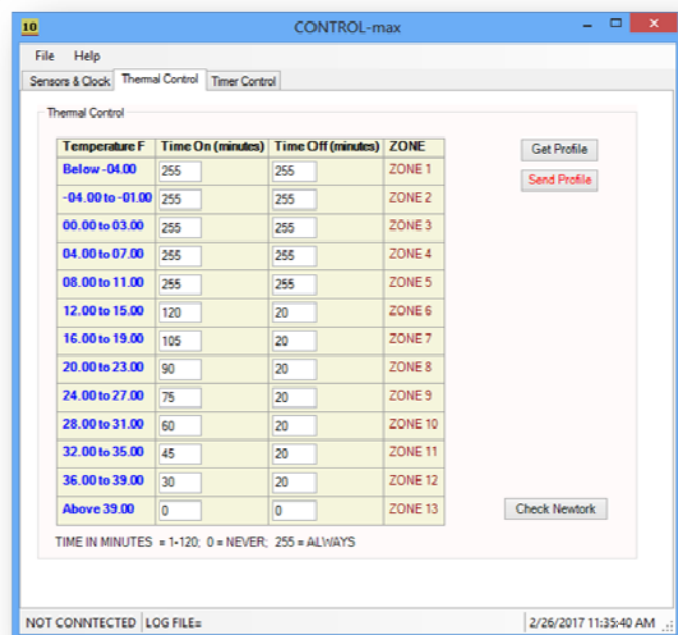

Figure 4
- Thermostatic control spanning 13 independent temperature zones. End user programs the desired operation. Always ON, always OFF or managed ON-OFF duty cycle in minutes for each of the 13 zones. [Fig 4]